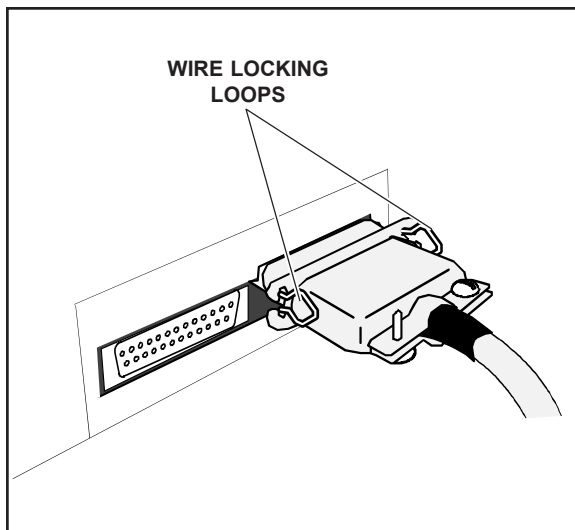
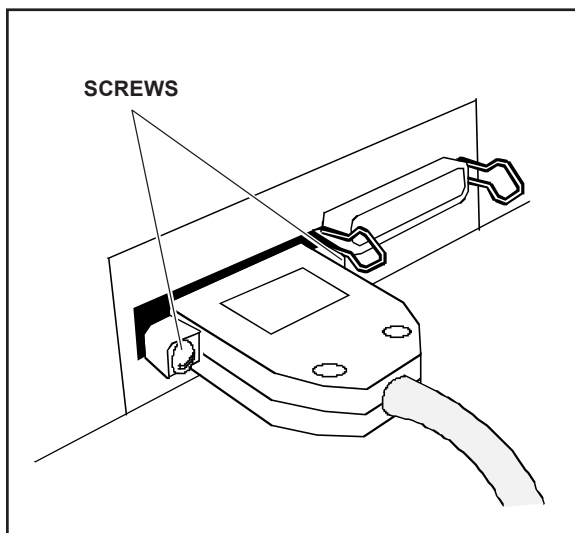

Figure 2-13. Connecting the Parallel Cable
Figure 2-14. Connecting the Serial Cable
2. If you are going to use the parallel interface, plug a parallel cable into the parallel receptacle (see figure 2-13) and lock it into place with the wire locking loops. If you are going to use the serial interface, plug a serial cable into the serial receptacle (see figure 2-14) and use a small slotted screw-driver to tighten the screws that secure the cable to the printer.